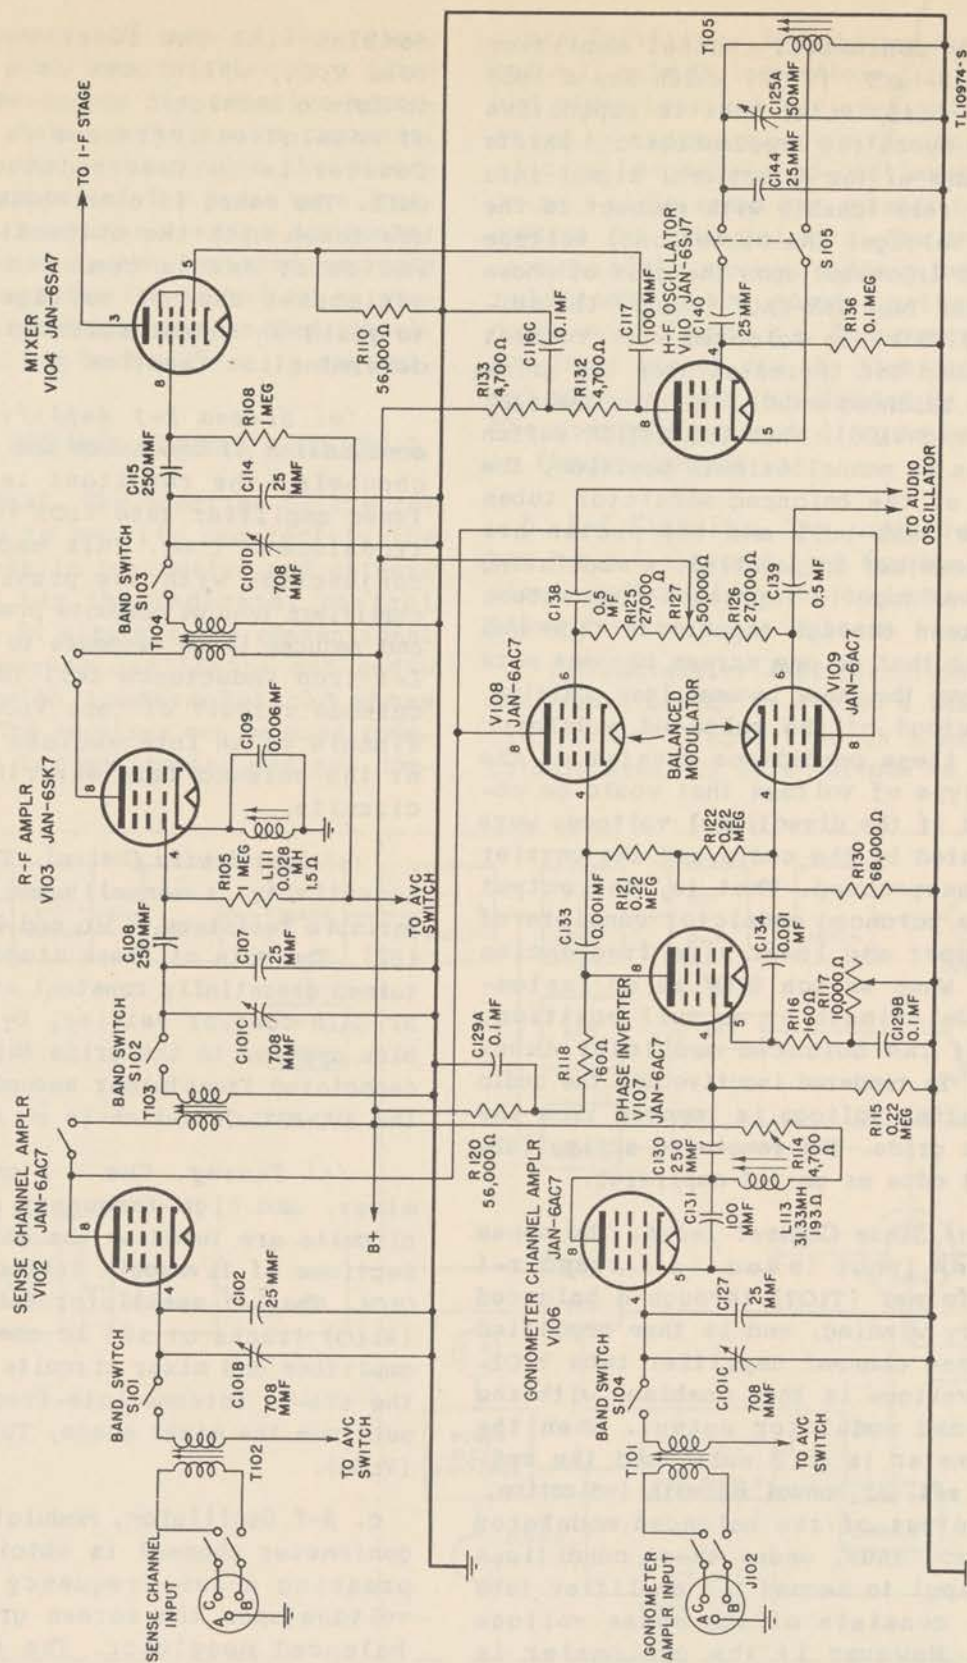

Figure 83. Functional diagram of r-f section.
b. R-f Circuits. The radio receiver has two r-f channels: one for the directional voltage from the goniometer, the other for the sense voltage (fig. 83).